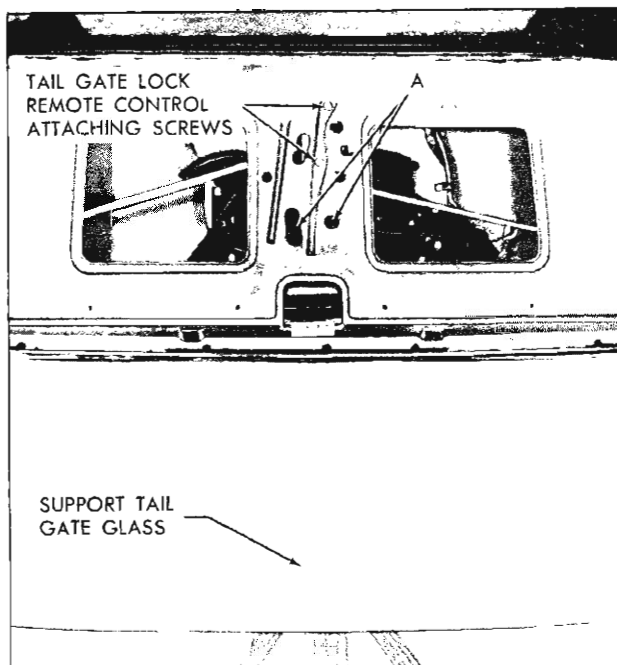

Fig. 92—Outside Handle and Lock Remote Control
2. Detach tail gate inner panel water deflector sufficiently to gain access to holes "A" for removal of handle attaching nuts (fig. 92).
CAUTION: Support portion of glass extending out of tail gate (fig. 92).
2. Detach tail gate inner panel water deflector sufficiently to gain access to holes "A" for removal of attaching nuts (fig. 92).
- Loosen tail gate lock remote control attaching screws (fig. 92) and move remote control towards bottom of tail gate sufficiently to disengage end of handle push rod from hole in remote control lever.